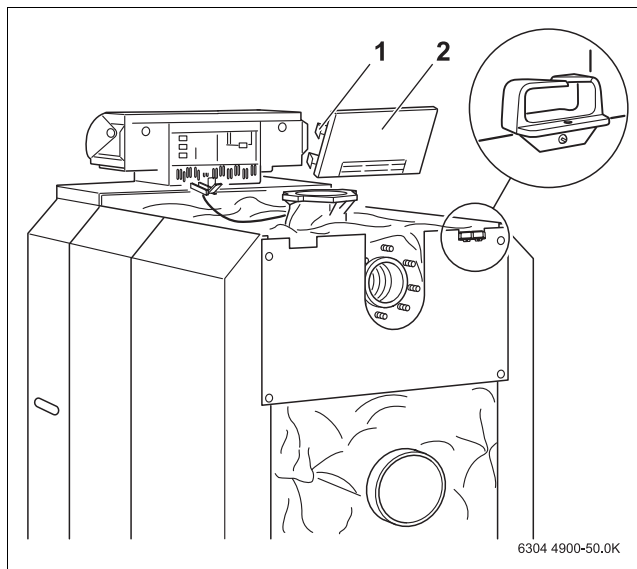

Fig. 53 Fitting the rear panel section
- ▶ Screw cable entry (see detailed view → Fig. 53) on the left and right of the boiler rear panel.